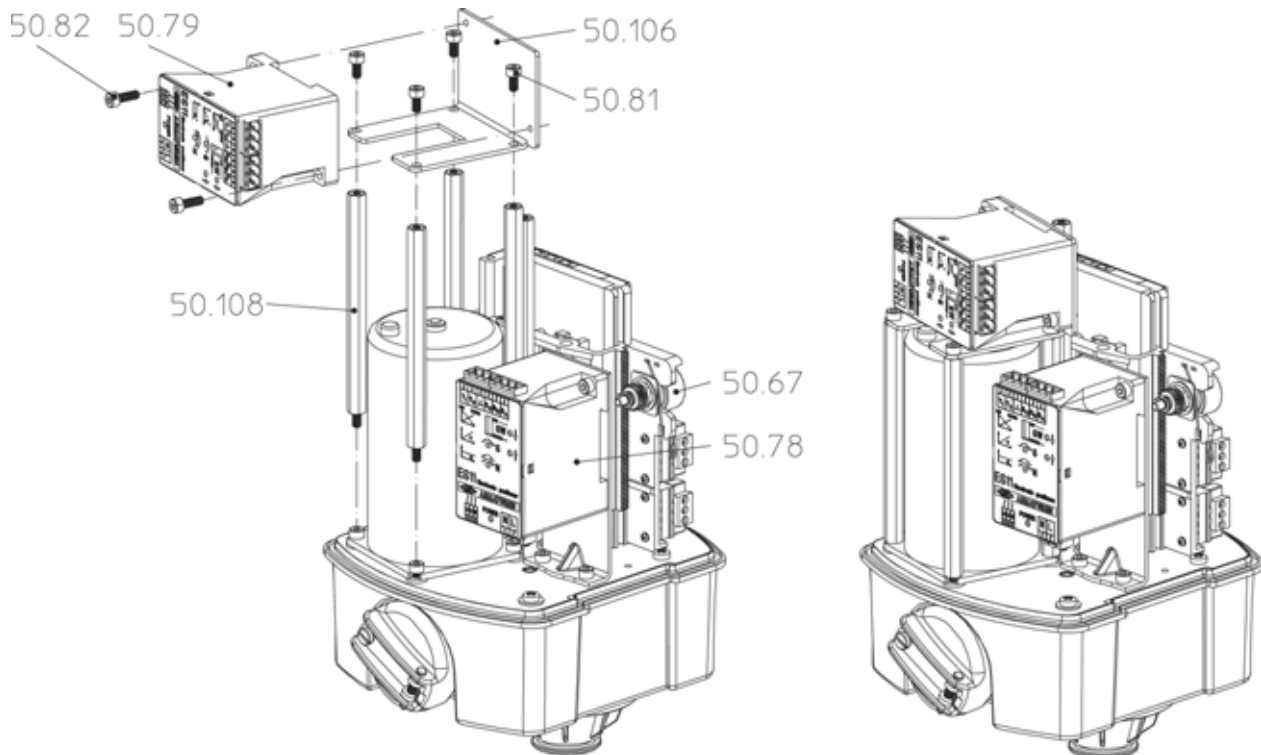
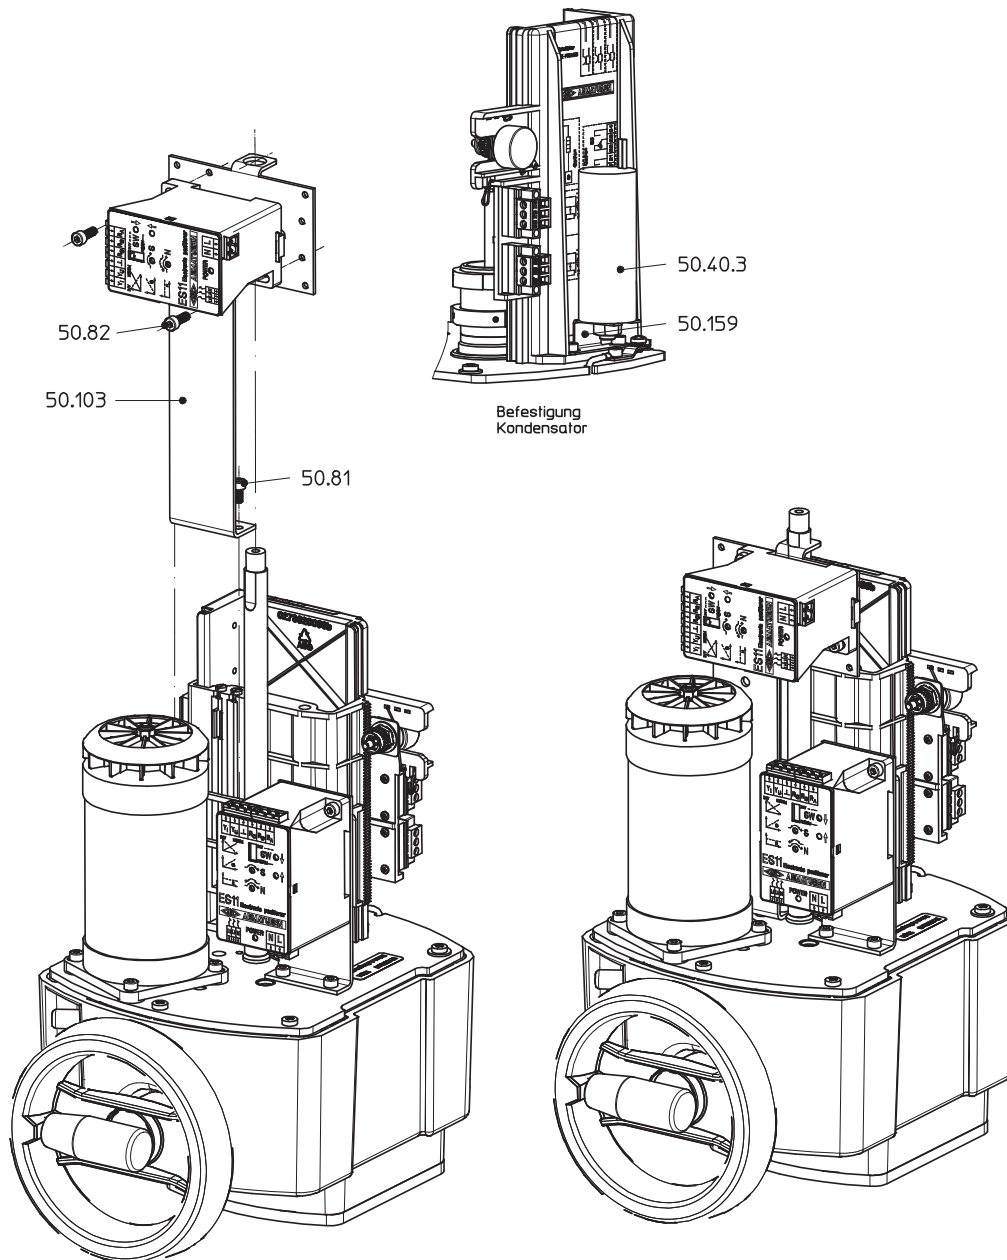

Fig. 18: Simultaneous installation RI21 / ES11 ARI-PREMIO® 2,2 - 5 kN
Fig. 19: Simultaneous installation RI21 / ES11 ARI-PREMIO® 12 - 15 kN
- Mount RI21 and ES11 with mounting kit according to Fig. 18 / Fig. 19.